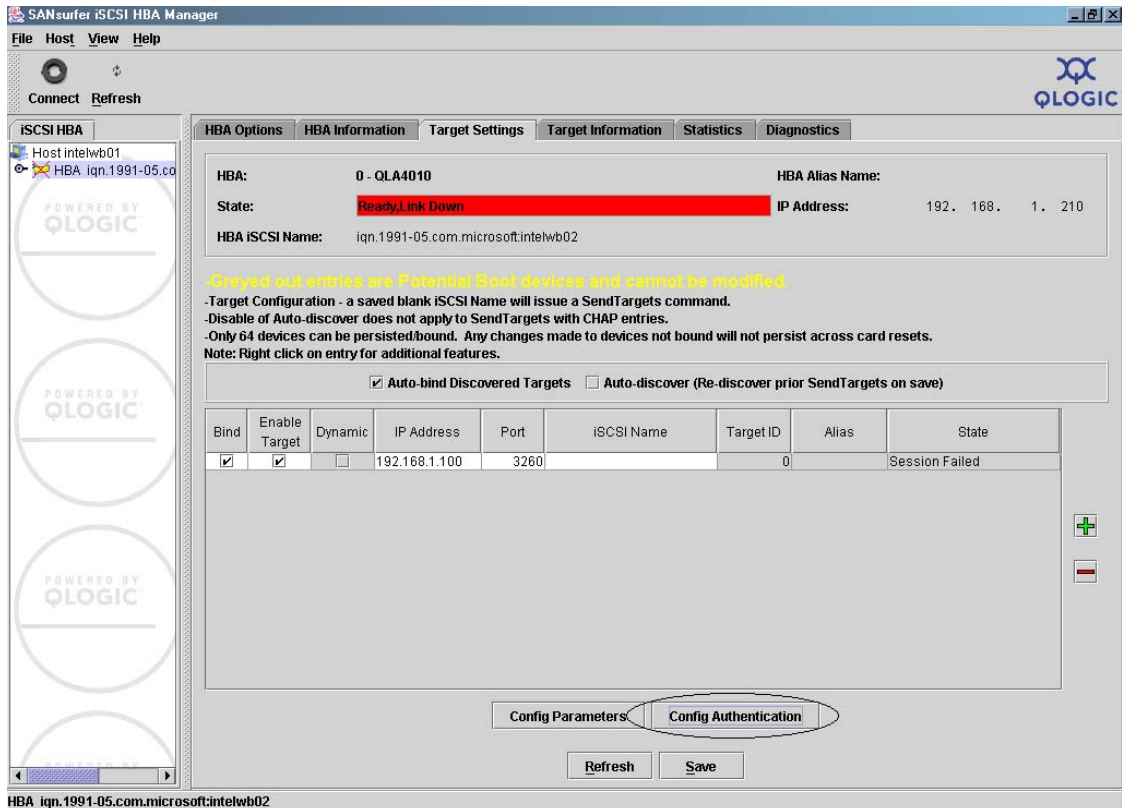

Figure 59 SANsurfer iSCSI HBA manager, target settings tab
- ◆ To configure your iSCSI targets, click the **Target Settings** tab from the **SANsurfer iSCSI HBA Manager** dialog, as shown in Figure 59.
- You can add as many targets as needed. If you need to enter CHAP security for any target, click **Config Authentication** at the bottom of the dialog, as shown in Figure 59 on page 84, to get the **Authentication Configuration** dialog, shown in Figure 61.
- ◆ To save all target settings, click **Save** at the bottom of the **SANsurfer iSCSI HBA Manager, Target Settings** tab, as shown in Figure 59 on page 84. You will be prompted for the SANsurfer security password. The default password is `config`, but it can be changed.